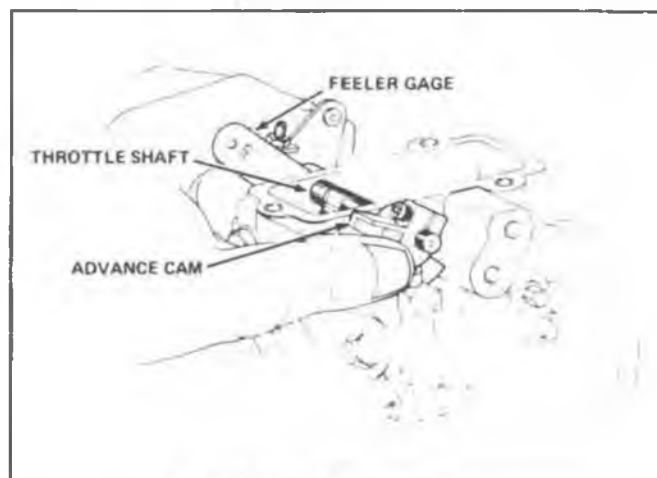

Fig. 2-12 Feeler Gauge Installation
19. Install a new mylar washer, the throttle shaft advance cam, (do not tighten cam screw at this time), and a new throttle shaft drive pin (Fig. 2-12).
21. Insert a .005" feeler gage between the white washer on the throttle shaft and the pump housing. Squeeze the throttle shaft and tighten the cam screw. Torque to 3.1 N·m (30 in. lbs.) and secure with Loctite 290. Remove tool J-2960I (Fig. 2-12).